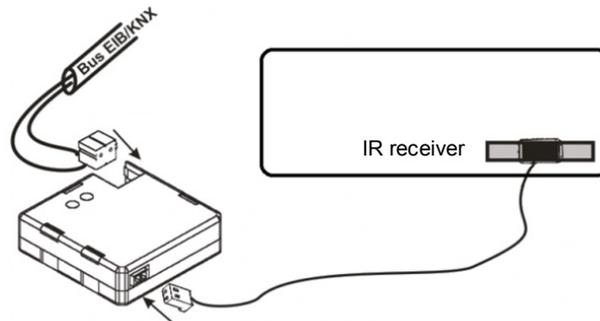

Figure 3. IRSC - A/C unit interface
- **Programming Button (3)**: a short press on this button sets the device into the programming mode, making the associated LED (2) light in red. If this button is held while plugging the device into the KNX bus, IRSC enters the Safe Mode.
- **IR Emitter (5)**: infrared flashing diode to send commands to the air conditioning system. It must be placed in front of the IR receiver of the A/C unit (see Figure 3).
- **Socket for the Aerial Connector (6):** slot for the insertion of the aerial connector, through which the IR commands are outputted from IRSC.
Figure 3 shows how to locate the IR Emitter (5) in front of the climate system.